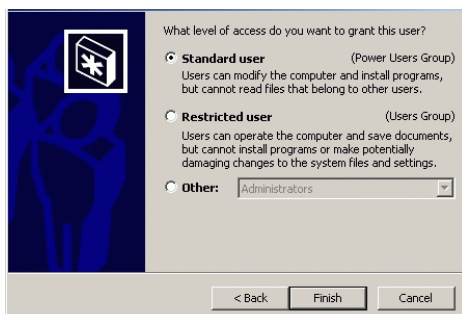

Figure 2-26 Add New User Wizard (Third Window)
3. Type the new user password in the *Password* and *Confirm password* fields, then click *Next*. The third window of the *Add New User* wizard displays (Figure 2-26).